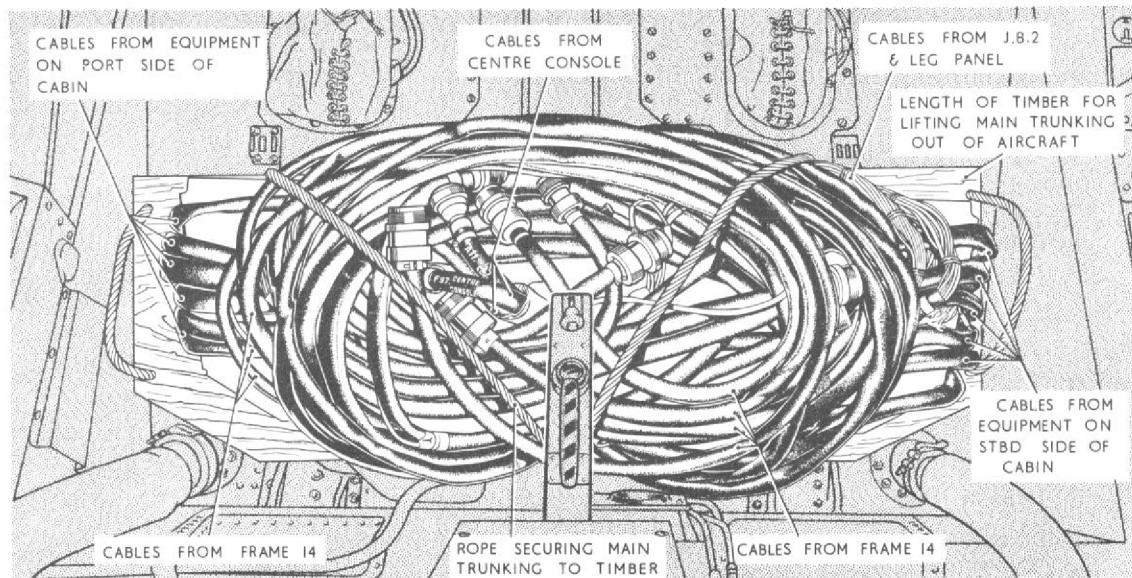

Fig.2 Main trunking ready for removal
(8) Coil the cable assemblies disconnected from frame 14 and those from the equipment at the rear of the cabin back to the trunking, fold the assemblies over the trunking and secure to those already in position.
(9) The trunking, complete with its cable assemblies (fig.2) may now be removed from the aircraft as a complete unit by two men positioned one on each side of the cabin.